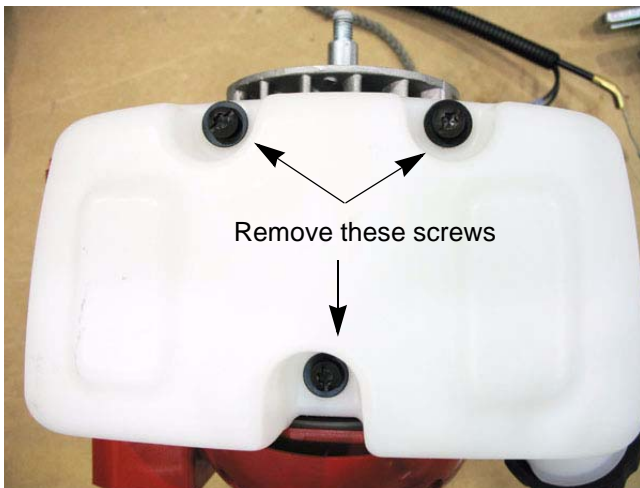

Figure 9.2
- 1c. Remove the three screws on the bottom of the fuel tank with a T-25 torx driver. See Figure 9.2.